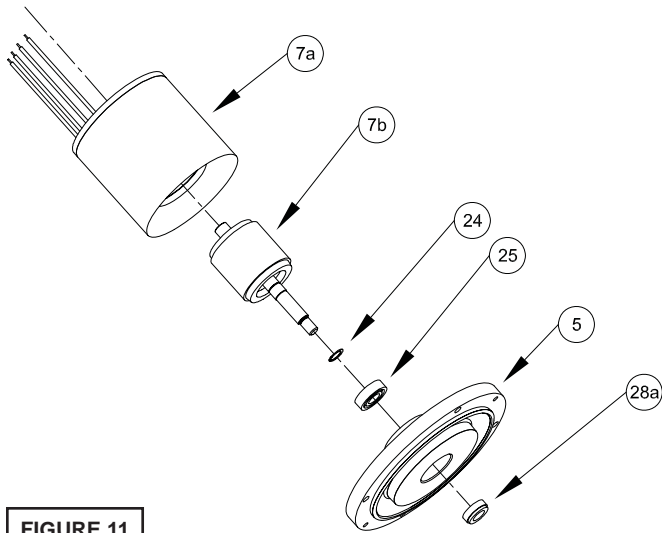

FIGURE 11
The unit voltage should be noted. Remove socket head cap screws (47). Vertically lift the motor housing (6) from seal plate (5) by lifting handle (13). Inspect square ring (27) for damage or cuts. Remove the motor bolts and lift motor stator from seal plate (5). Examine bearing (25) and replace if required. If replacement is required, remove bearing (25) from motor shaft using a wheel puller or arbor press, see Figure 11.